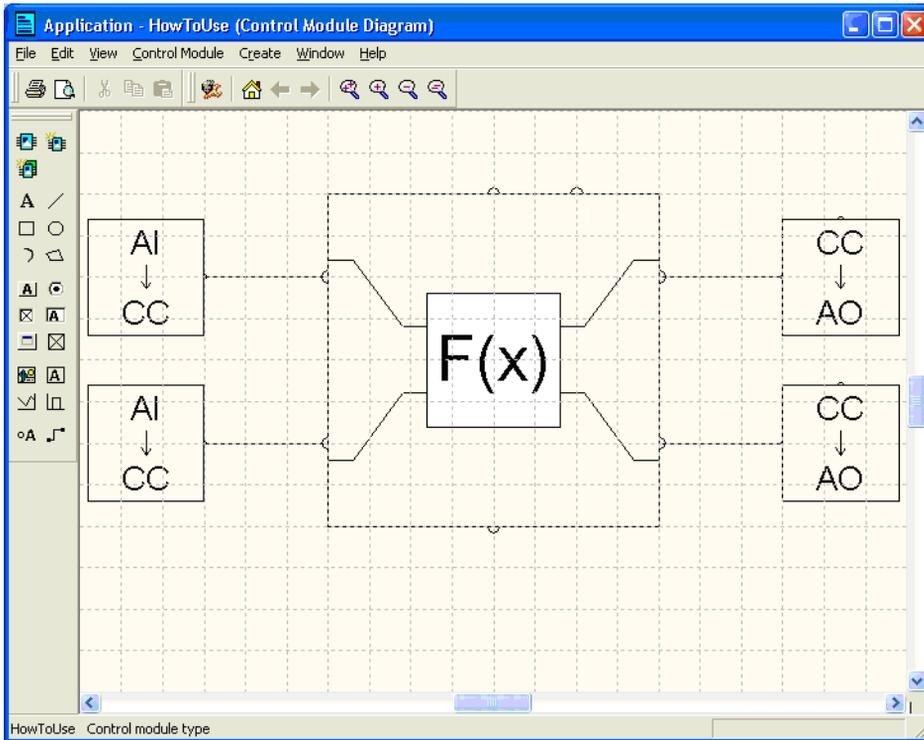

Figure 78. Connection of the Mimo22CC object
8. Connect the control modules correctly. Figure 78 shows the completed connection for the `Mimo22CC` object.